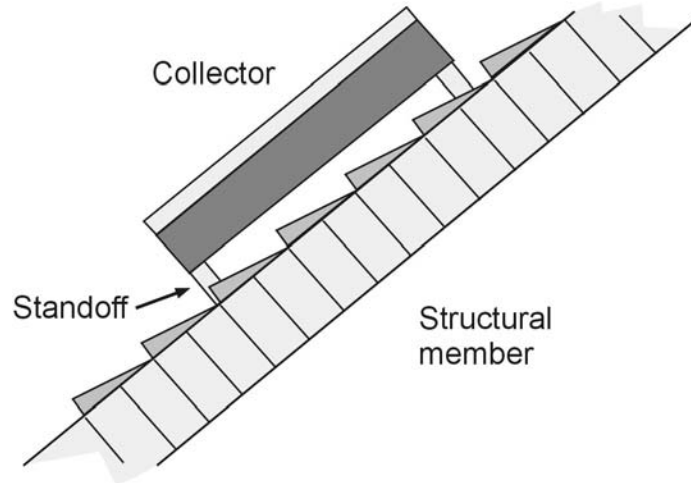

Figure 6 Standoff-mounted collector
2. **Standoff Mounting.** Standoffs separate the collector from the finished roof surface; they allow air and rainwater to pass under the collector and minimize problems of mildew and water retention (Figure 6). Standoffs must have adequate structural properties. They are sometimes used to support collectors at slopes that differ from that of the roof angle. This is the most common mounting method used.